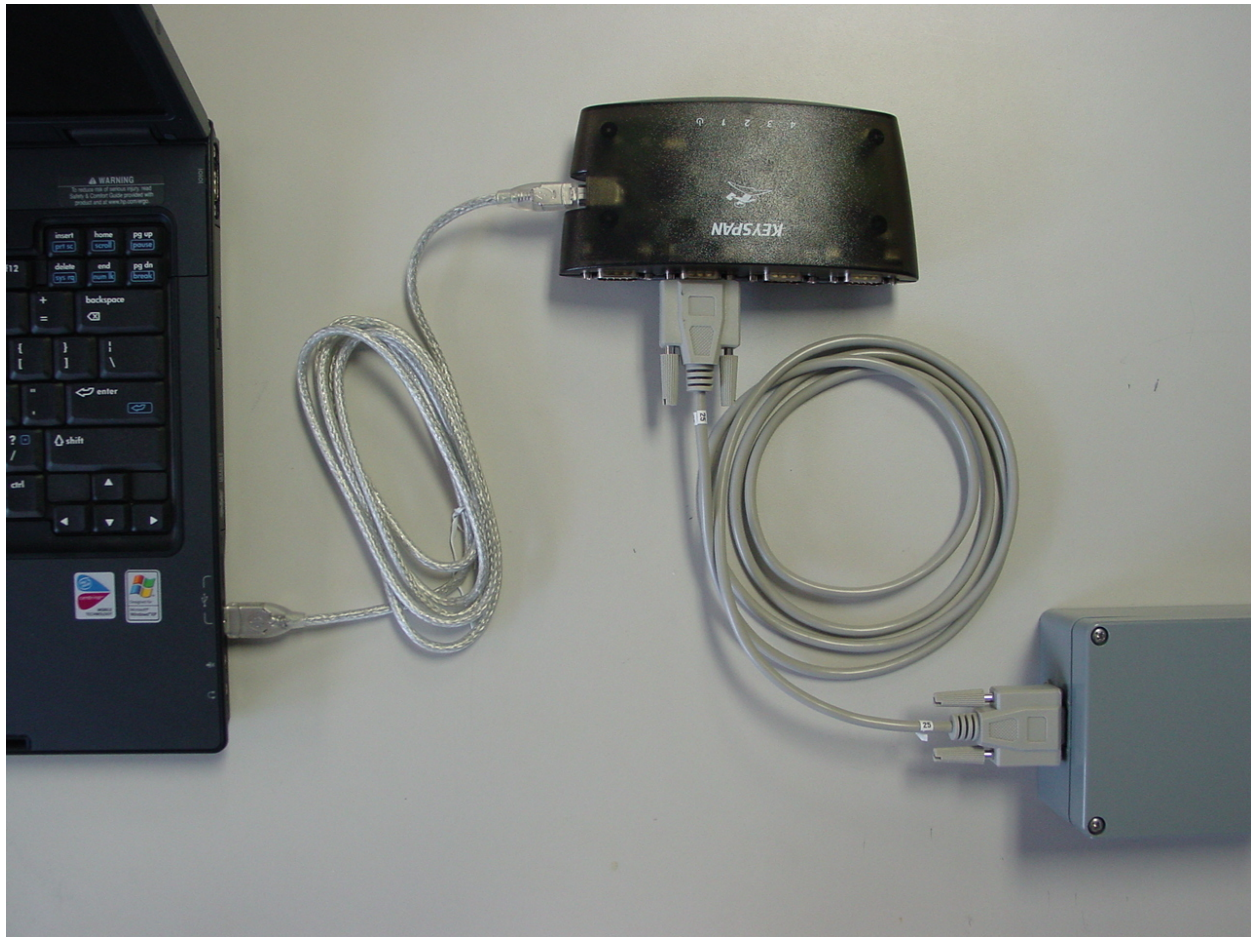

Figure 10-1. Direct pocket simulator to Dock Server machine connection.
1. Connect one end of a serial cable to the RS-232 port on the simulator and the other end to a Dock Server machine serial port. Figure 10-1 shows a direct connection between a pocket simulator and a Dock Server machine.